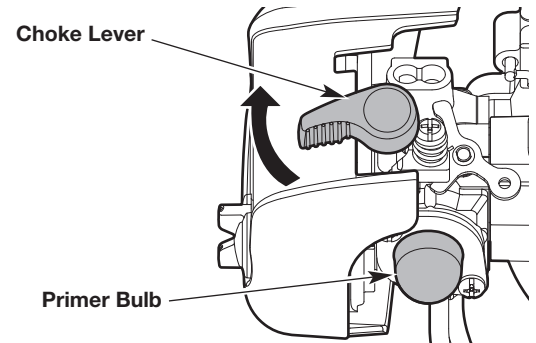

Fig. 12
1. Slowly press and release the primer bulb **10 times** (Fig. 12).
2. Flip the choke lever clockwise until it clicks (Fig. 12).